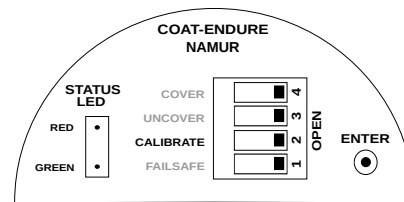

Figure 48: Saving Calibration
- Open the housing cover and set the CALIBRATE switch back to OPEN position as shown in Figure 48.